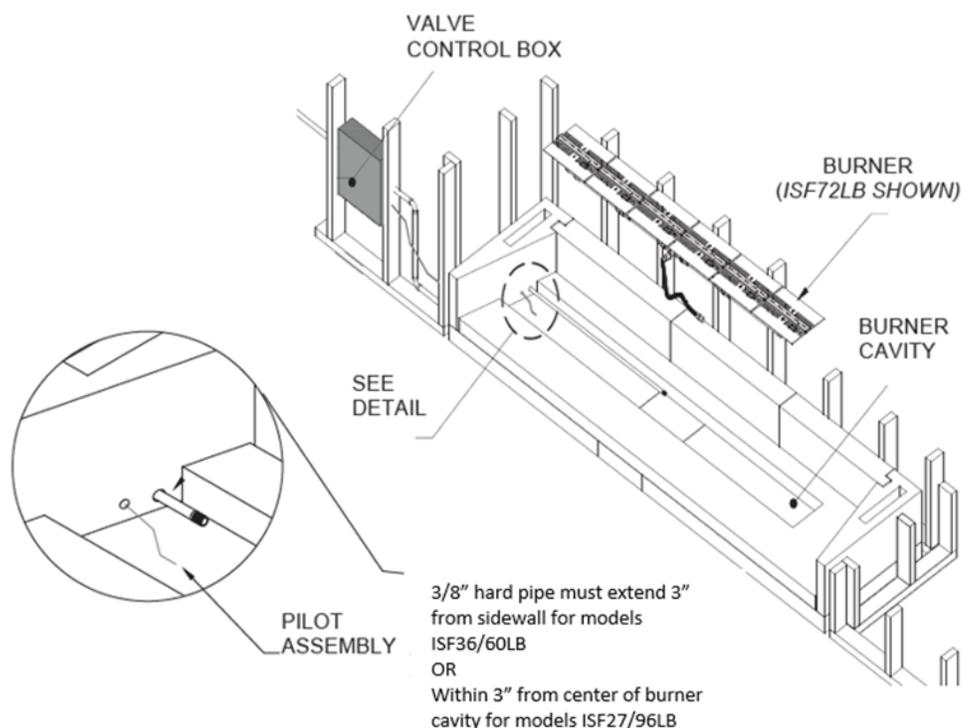

FIGURE 46
- 4) The 48” and 72” Maximus Linear Open Front fireplaces (82L48 & 82L72) will require the ISF36/60LB (N/P) (respectively): Gas supply piping for these models shall terminate not less than 3” from sidewall. **(Figure 46)**
- 5) The 96” and 120” Maximus Linear Open Front fireplaces (82L96 & 82L120) will require the ISF72/96LB (N/P) (respectively): Gas supply stub piping for these models shall terminate within 3” from center of the cavity. **(Figure 46)**